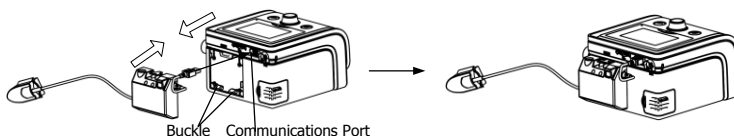

Fig. 11-12
(3) Point the two **Buckles** at the back of the SpO₂ Kit adapter towards the two buckles of the base plate, and push until the two units click into place. Insert the SpO₂ Kit connector into the **Communications Port** of the main device, as shown in Fig. 11-12.